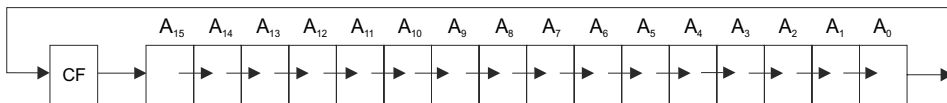

Fig. 6.25 Rotate right through carry
This instruction rotates the contents of the destination operand bits right by one or by the specified number of bits in CL through the Carry Flag (CF). After each rotate operation, the carry flag is pushed into the MSB of the operand and the LSB is pushed into carry flag and the other bits are subsequently shifted right as given in Fig. 6.25. The SF, PF, ZF are left unchanged. Its format is same as ROR. The object code of RCR instruction is